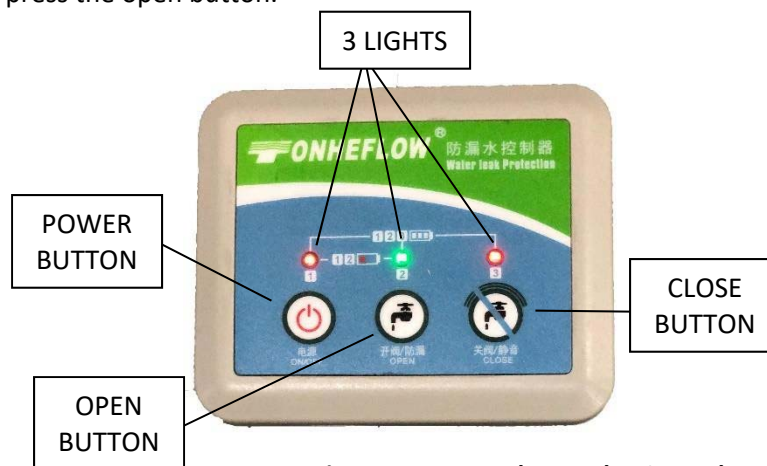

Figure 1 – Water Alarm Valve Control
1. Normal Operation Position: The inlet and outlet handles point in the direction of flow indicated by the engraved arrows on the control valve. Water flows through the control valve during normal operation and this position also allows the control valve to isolate the media bed during the regeneration cycle. (See Bypass Valve Figure 1 on next page)
Bypass Valve Figure 1
c. Water Leak Protection (Water Alarm) (Figure 1)